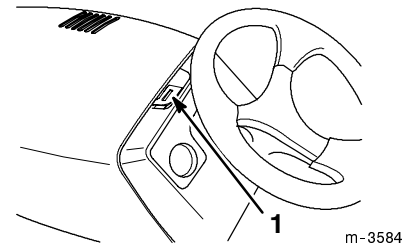

Figure 1
2. Slide a screwdriver into the right-hand side of the slot shown in Figure 1, and push the hood latch to the left.